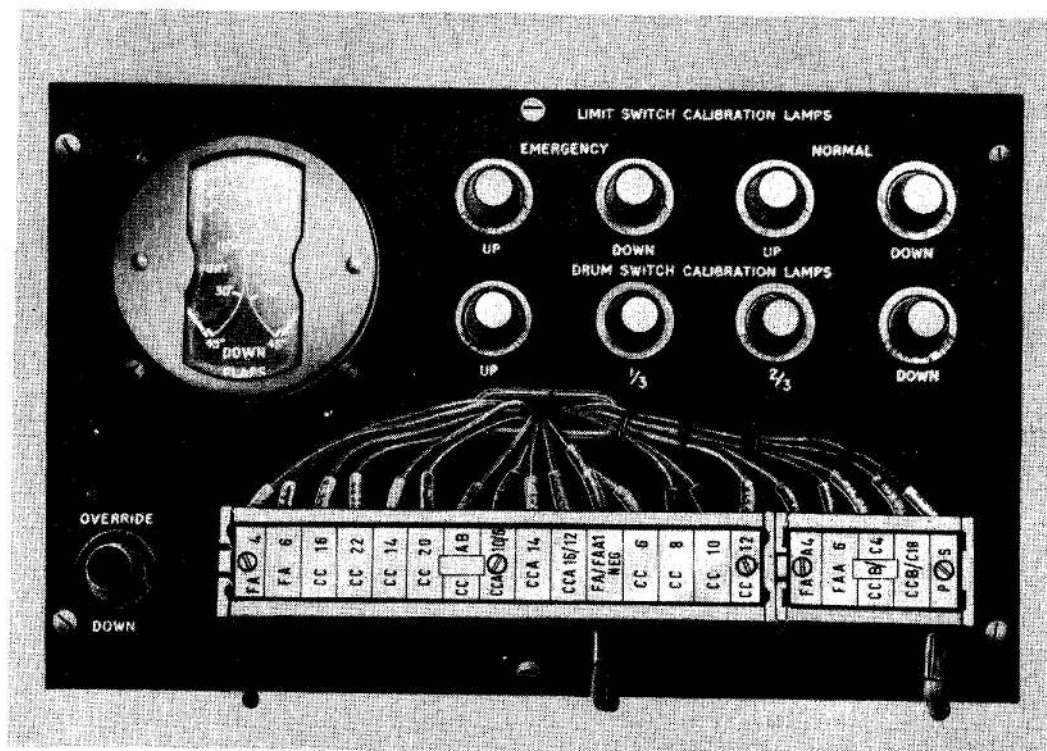
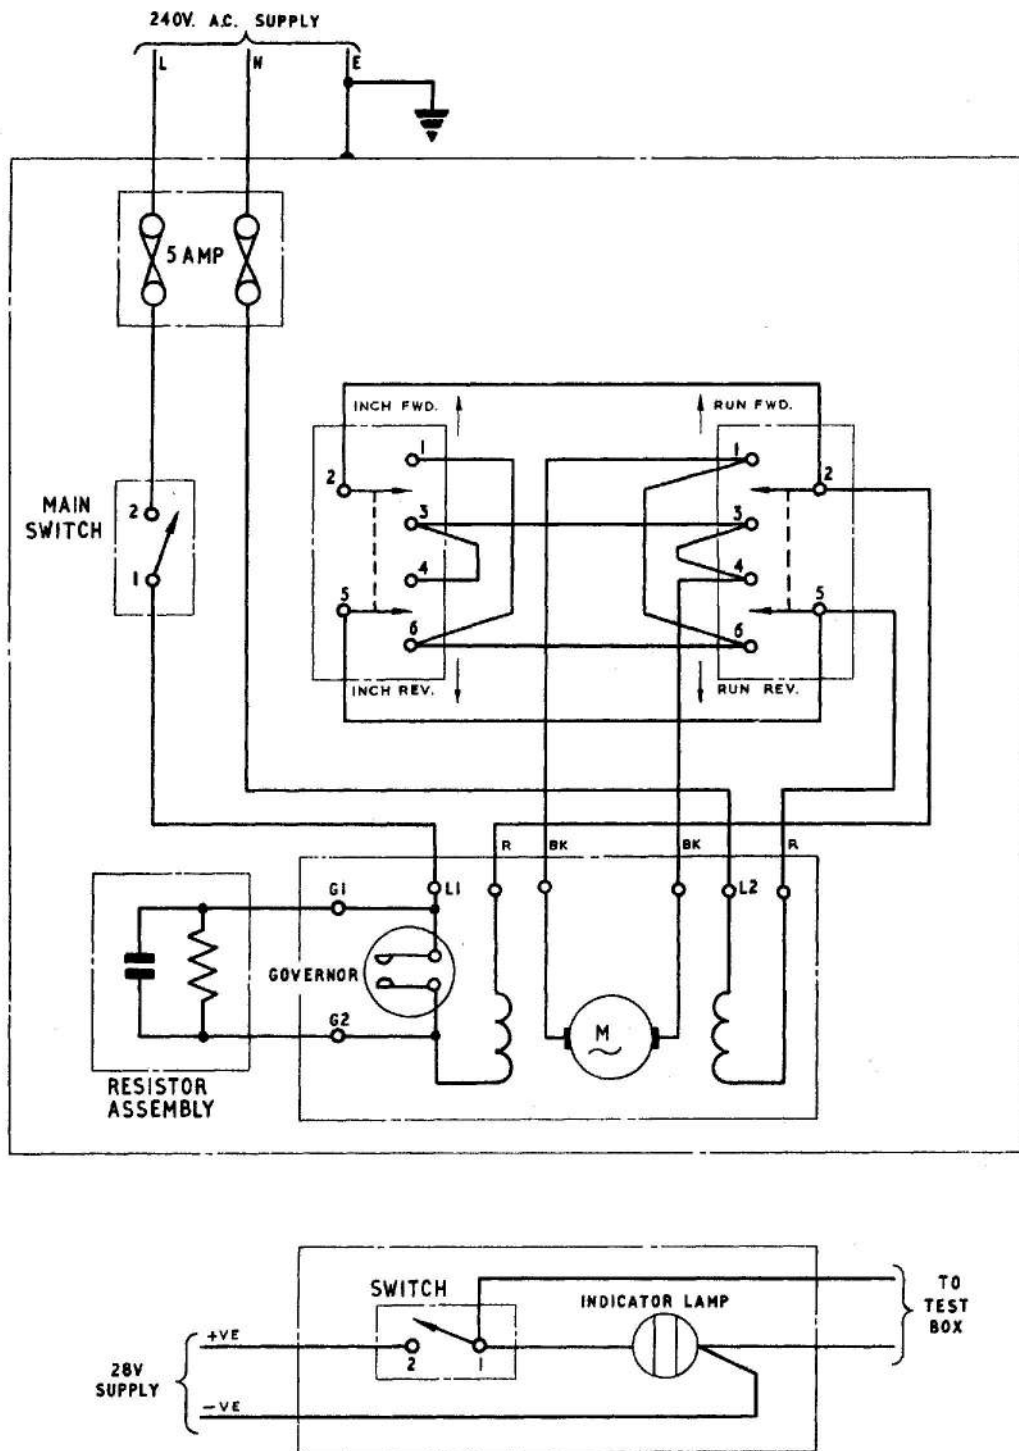

Fig.3. Test box
Fig.5. Motor circuit diagram
6. This contains the calibration lamps and the flap position indicator meter. The electrical connections are made via the terminal block, on the front, to the leads from the flap position gearbox under test. The Test Box is illustrated in fig.3 and the circuit diagram in fig.5.